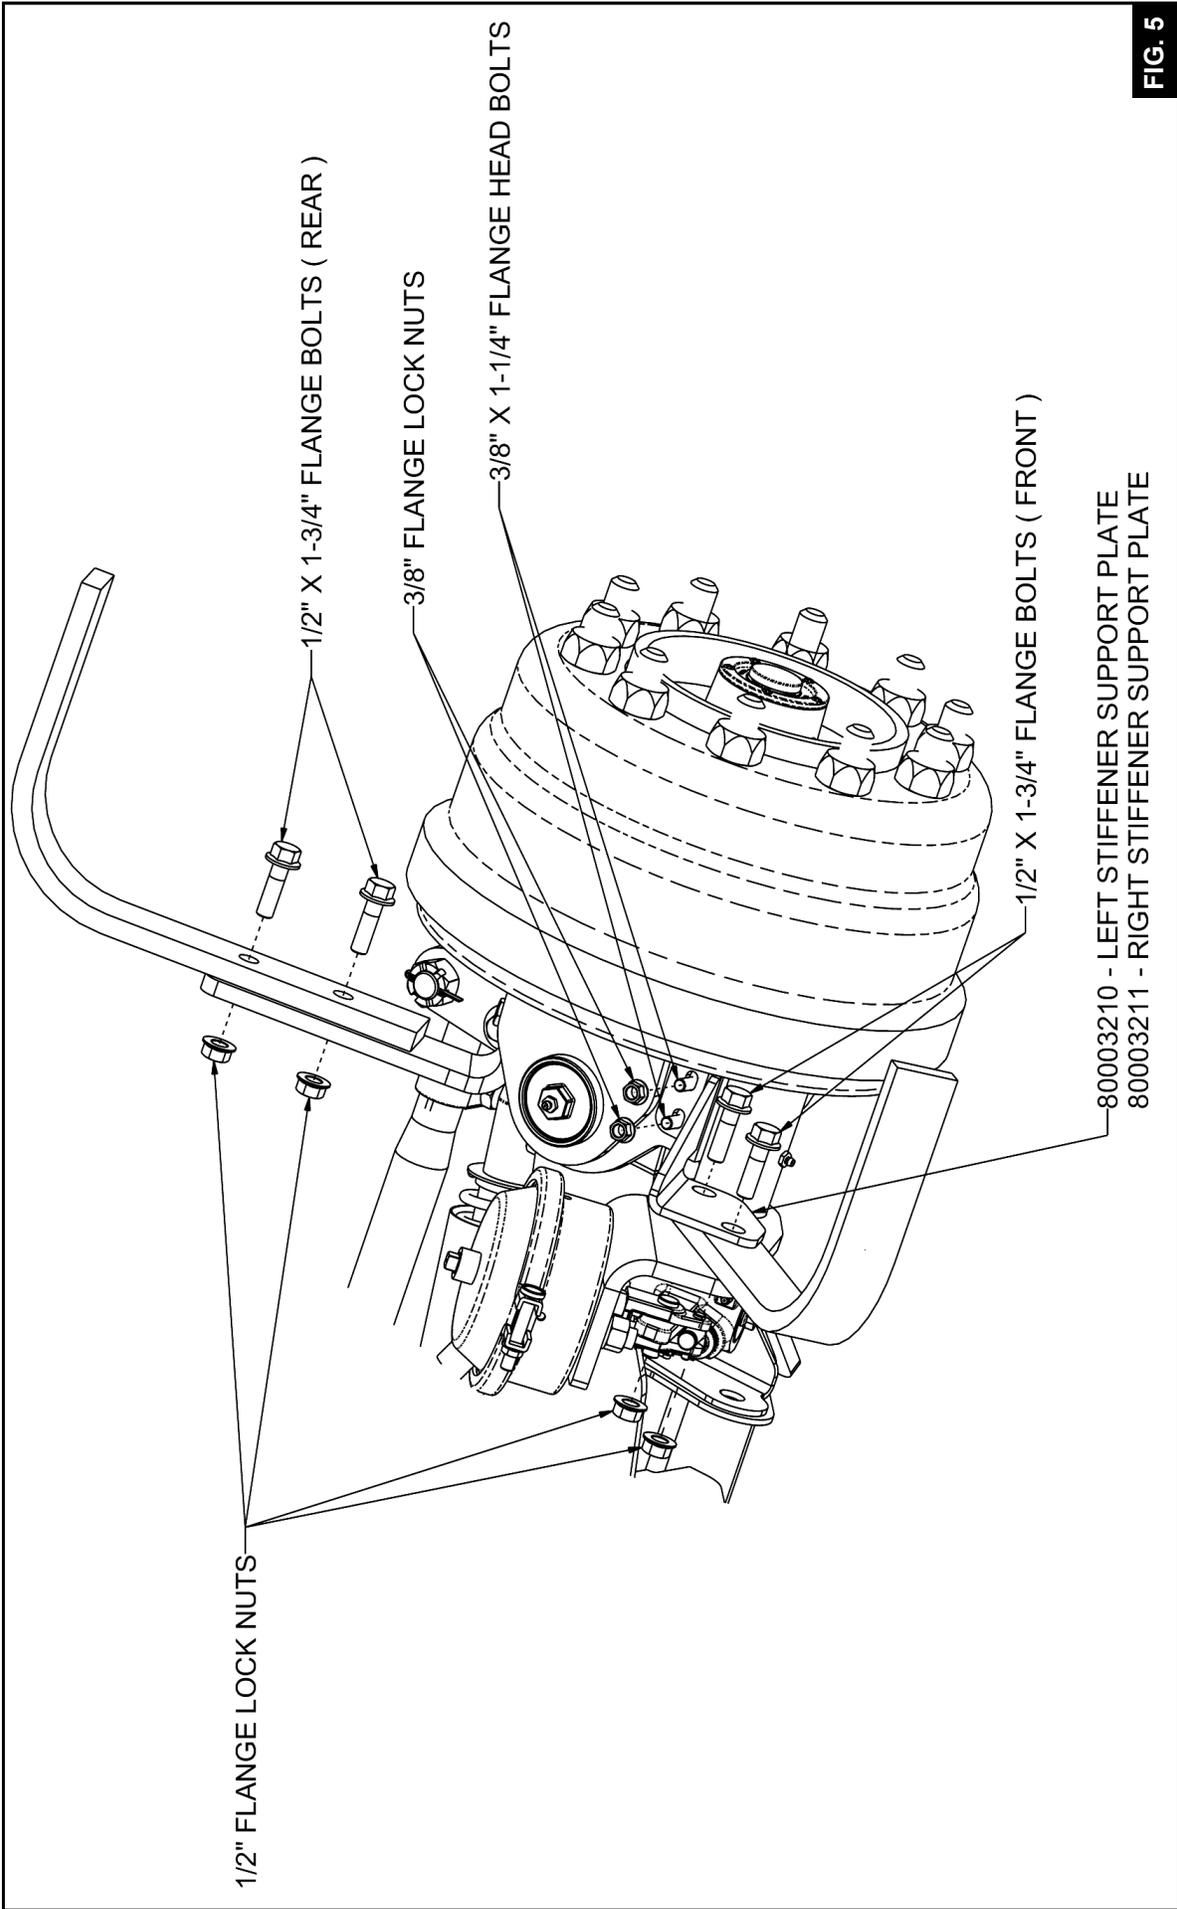

FIG. 5
3.10 Assemble the aluminum fender arms to the mounting brackets as shown in **Fig 5**.